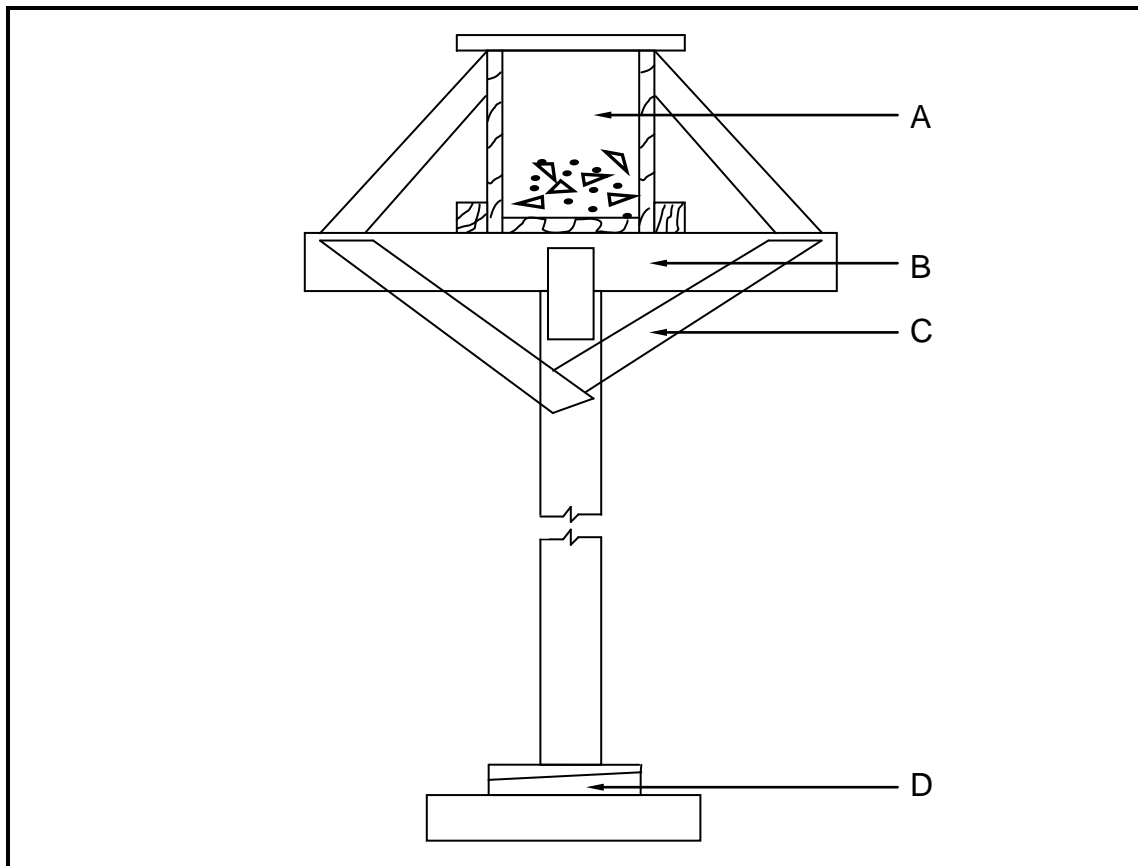

FIGURE 2.5
2.5 FIGURE 2.5 below shows formwork supporting a concrete beam. Analyse the illustration and answer the questions that follow.